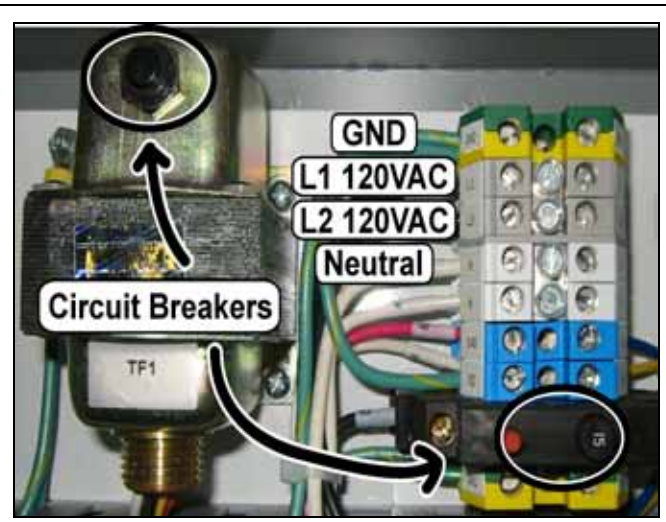

Figure 7, Internal Circuit Breakers
Step 3) Reset both circuit breakers inside the panel, see Figure 7.
- Step 1) There is a GFCI breaker located on the right-side of the keypad panel, also Figure 7 shows two internal breakers which must be reset.